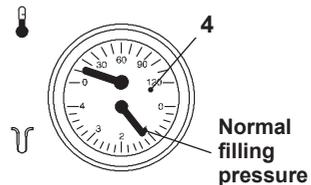

Fig. 2.2
In order to guarantee safety and correct operation, it is essential that all the tests are carried out by a competent and responsible service engineer before lighting up the boiler. The tests are described in the installation instructions in section 7 commissioning. Ensure that the C.H. circuit is regularly filled with water (even if the boiler is only used for D.H.W. supply) checking that the pressure indicated on pressure gauge 4 is not lower than that shown in Fig. 2.2.
If the pressure reading on the pressure gauge is below that shown in Fig. 2.2, then the system will require topping up. A filling loop is normally provided by the Installer for this purpose.
- Open the valves of the filling loop and watch the gauge until it reaches normal filling pressure as shown in Fig. 2.2.